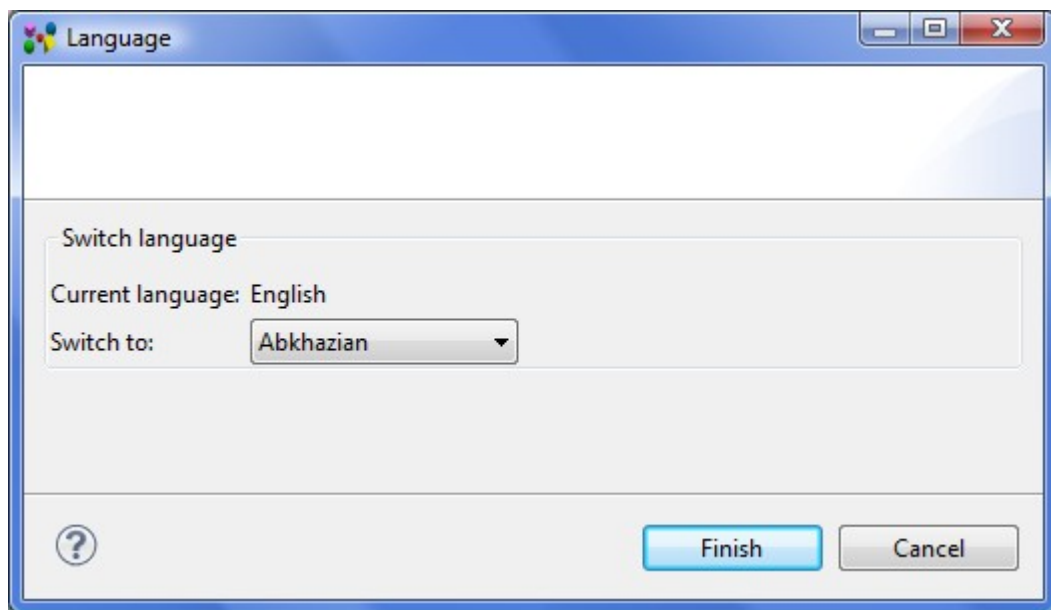

Figure 1. Language dialogue window
- Select in the main menu bar **File -> Language**. The **Language** dialogue window appears on the screen (see Figure 1). The currently applied language is displayed next to the label **Current language**.